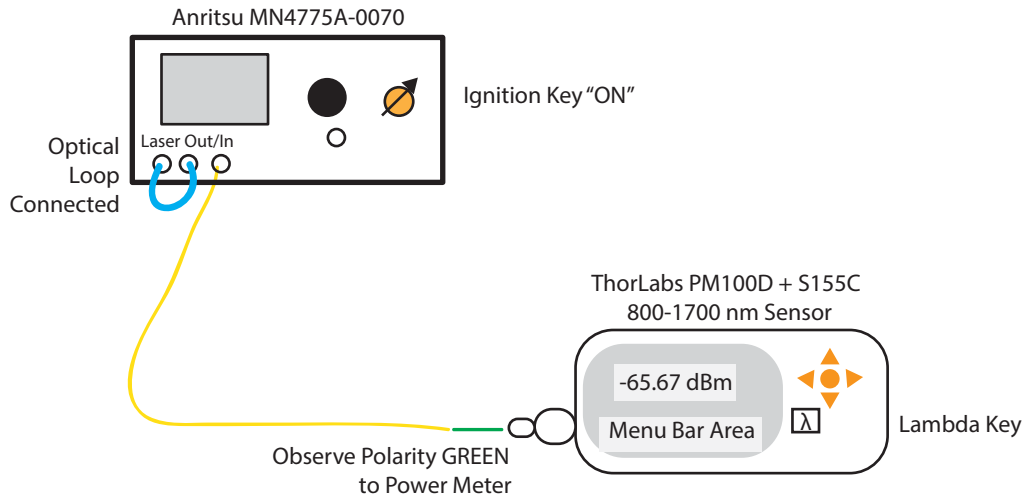

Figure 3-39. Optical Power Measurement – 1550 nm Configuration
- a. Connect PM100D OPM to E/O Converter Output via Optical Cable, as shown in Figure 3-39.